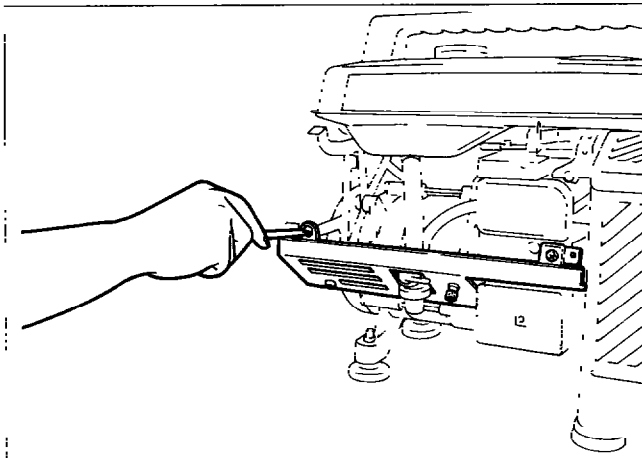

Fig. 10-8
| | | (2) Remove the front cover by unscrewing three M5 × 8 screws. (See Fig. 10-8.) | | (+) Driver |